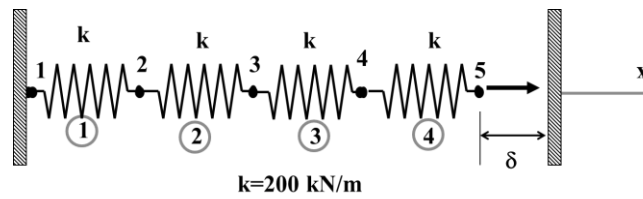

Fig. 5
- 5A. From the first principles of **Minimum Total Potential Energy** concept, obtain the element displacements of the spring assemblage shown in **Fig.5** , if $\delta = 20$ mm.